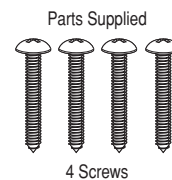

Figure 7B
- Secure the drawer with the 4 screws supplied. See **Figure 7B**.